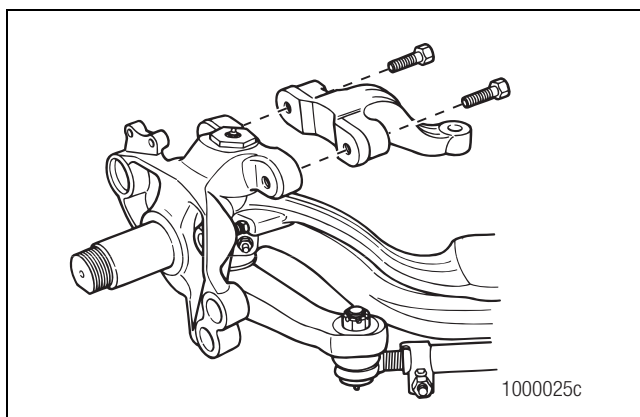

Figure 4.10
1. Remove the two steering-arm-to-knuckle capscrews from the knuckle assembly. Figure 4.10.